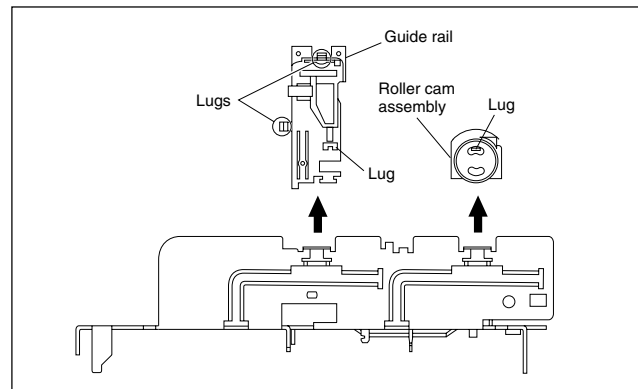

Fig. 2-2-3a
(1) Remove the guide rail and roller cam assembly. (See Fig.2-2-3a.)